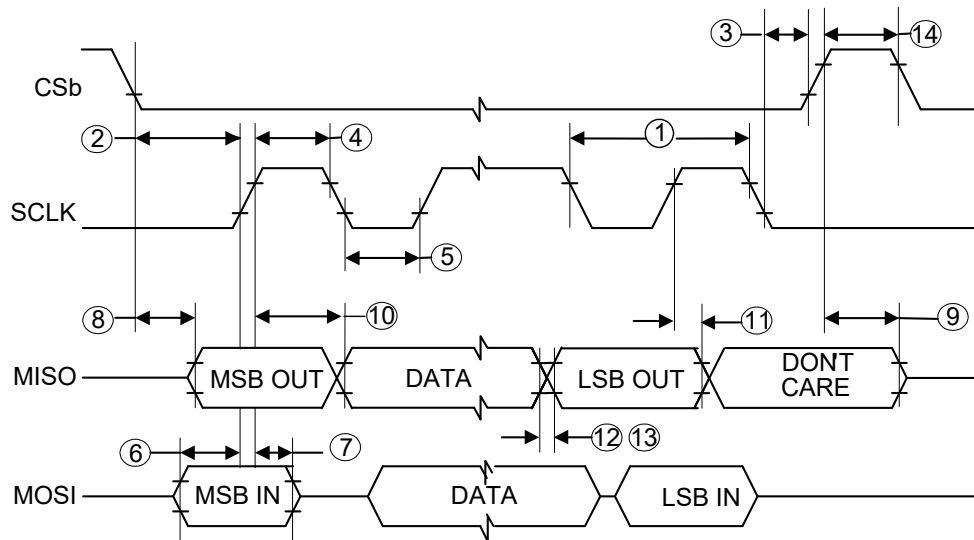

Figure 7. SPI timing diagram
| t SCK                   | SCLK Period• <a href="#">Figure 7</a> - 1                                                                         | 160         | —         | —           | ns       |       |
| t LEAD                  | Enable Lead Time• <a href="#">Figure 7</a> - 2                                                                    | 140         | —         | —           | ns       |       |
| t LAG                   | Enable Lag Time• <a href="#">Figure 7</a> - 3                                                                     | 50          | —         | —           | ns       |       |
| t SCKHS                 | SCLK High Time• <a href="#">Figure 7</a> - 4                                                                      | 56          | —         | —           | ns       |       |
| $t_{SCKLS}$                      | SCLK Low Time• <a href="#">Figure 7</a> - 5                           | 56   | —    | —    | ns    |       |
| $t_{SUS}$                        | MOSI Input Setup Time• <a href="#">Figure 7</a> - 6                   | 16   | —    | —    | ns    |       |
| $t_{HS}$                         | MOSI Input Hold Time• <a href="#">Figure 7</a> - 7                    | 20   | —    | —    | ns    |       |
| $t_A$                            | MISO Access Time• <a href="#">Figure 7</a> - 8                        | —    | —    | 116  | ns    |       |
| $t_{DIS}$                        | MISO Disable Time (25)• <a href="#">Figure 7</a> - 9       | —    | —    | 100  | ns    |       |
| $t_{VS}$                         | MISO Output Valid Time• <a href="#">Figure 7</a> - 10                 | —    | —    | 116  | ns    |       |
| $t_{HO}$                         | MISO Output Hold Time (No cap on MISO)• <a href="#">Figure 7</a> - 11 | 20   | —    | —    | ns    |       |
| $t_{RO}$                         | Rise Time• <a href="#">Figure 7</a> - 12                              | —    | —    | 30   | ns    | (25)  |
| $t_{FO}$                         | Fall Time• <a href="#">Figure 7</a> - 13                              | —    | —    | 30   | ns    | (25)  |
| $t_{CSN}$                        | CS_B Negated Time• <a href="#">Figure 7</a> - 14                      | 500  | —    | —    | ns    |       |